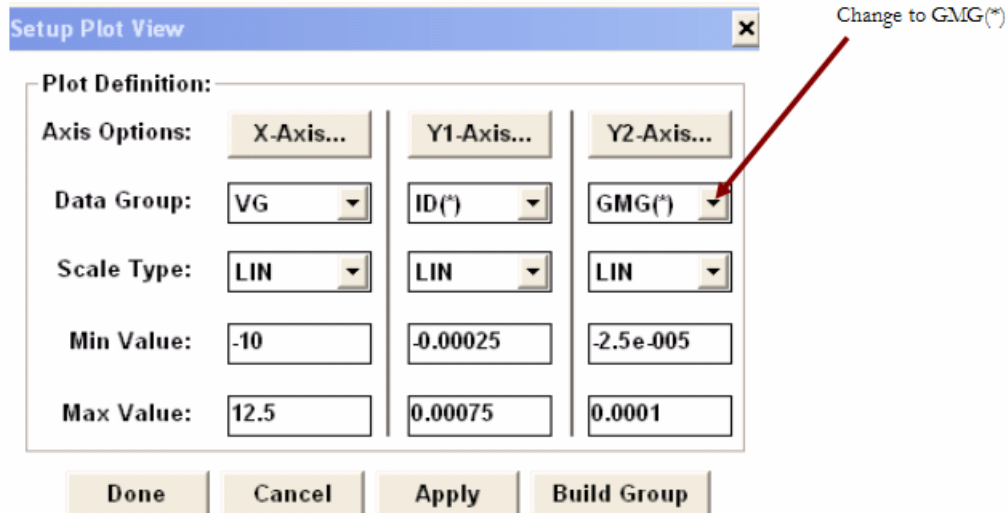

Figure 34: Setup Plot View window
- Click on the Data Group of Y2-Axis..., see Figure 34. Select GMG(*), click Apply and Done.